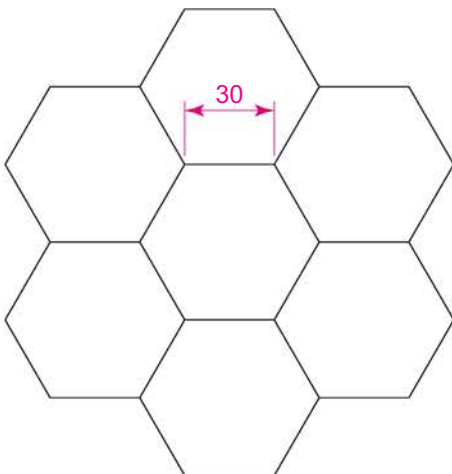

Fig. 4.29 Exercise 7
7. Fig. 4.29 shows seven hexagons with edges touching. Construct the inner hexagon using the **Polygon** tool, then with the aid of the **Edge** prompt of the tool, add the other six hexagons.